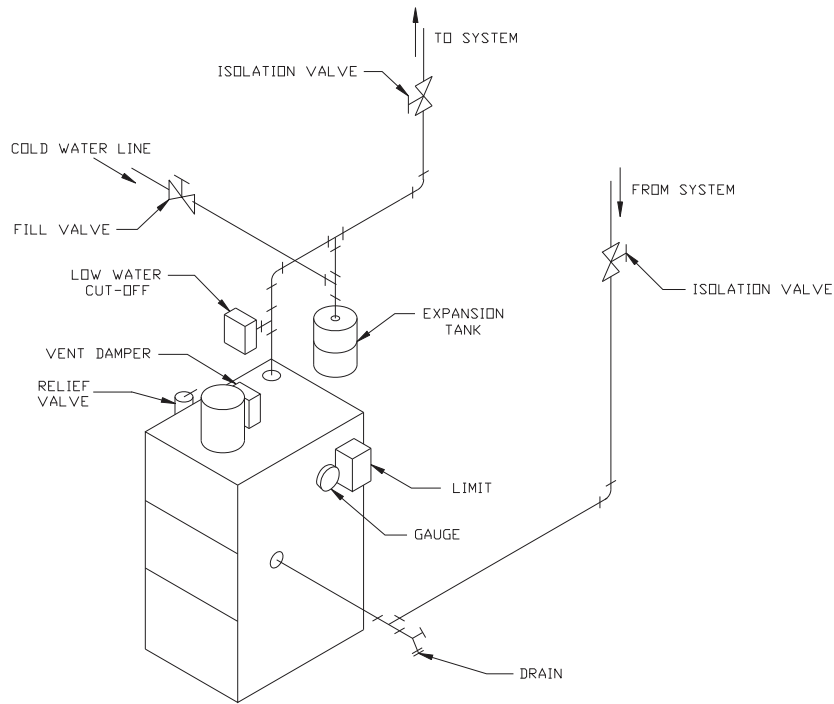

FIGURE 16: GRAVITY PIPING
- 7) Gravity Hot Water Systems - The CWI is suitable for installation in a gravity hot water system. Figure 16 shows piping for a gravity hot water boiler. The circulator, 1-1/2" x 2" bushings, and 1-1/2" piping are removed and the system piping is run directly to the 2" supply and returnappings on the boiler. If isolation valves are installed, they should be gate valves or "full port" ball valves.